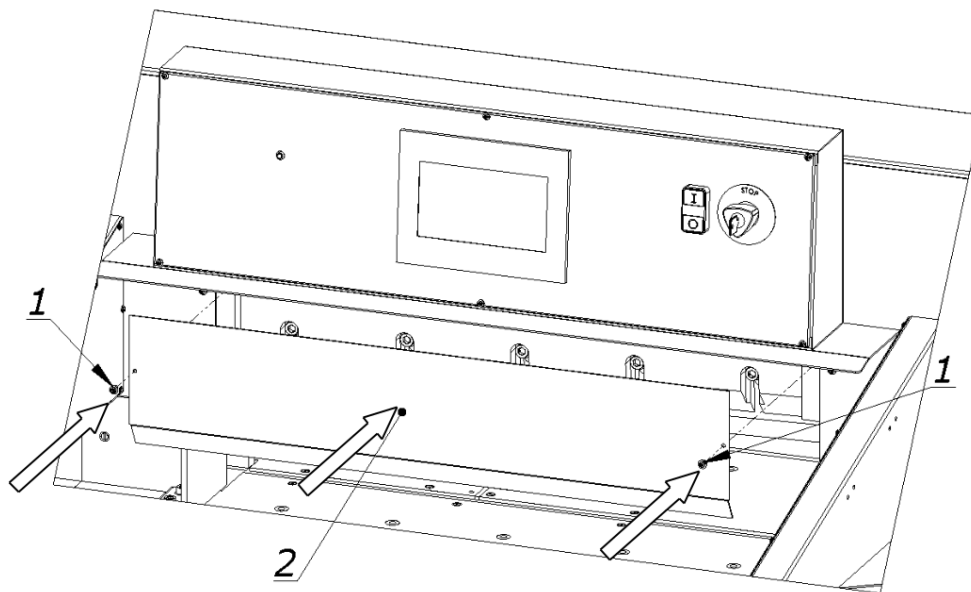

Figure 36.
8.1.2.23 Fix the cover (2) with the screws (1, fig. 36)